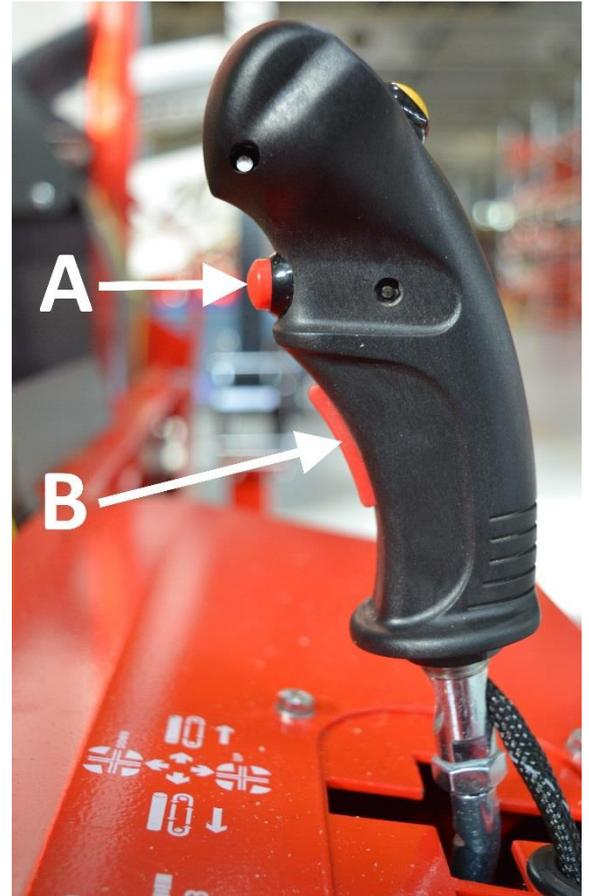

Figure 11. Joystick
Operation of the controls in Figure 11
8. Start the splitting motion by pressing joystick button A (Figure 11). The splitting motion must be normal.
- a. Perform a few sawing cycles without wood by pressing joystick button B (Figure 11).
4. Cut the log by pressing joystick push button B (Figure 11). This activates the HakkiCut™ function: the saw chain starts rotating, the saw chain oil pump performs a pumping cycle and the saw bar moves down at optimal power.
5. Return the saw bar to the upper position by releasing button B (Figure 11). This also stops the saw chain.
When sawing wood, the second to last piece should be sawn in such a way that the remaining piece is of a sufficient length. This ensures that the log will stay firmly under the wood gripper and that the sawing will be steady and safe. Drive the last log directly into the splitting section, and start the splitting process using joystick button A (Figure 11).
The splitting slide of the machine performs a splitting cycle every time button A on the control lever E (Figure 11) is pressed. The splitting function is not available when the machine's cover is open. The splitting cycle can be stopped and reversed by opening and closing the machine's cover.